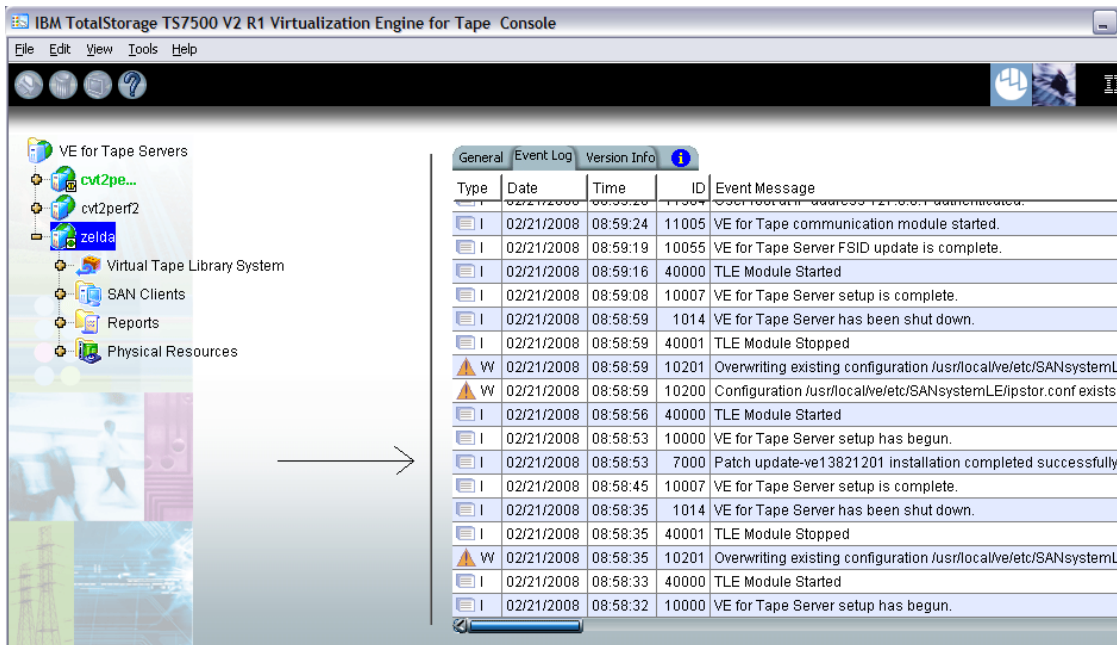

Figure-13
10. Check the TS7520 Event Log of each server, using the **VE for Tape Console** application *Event Log* tab, to confirm the successful installation of the patch (refer to Figure-13). There should be an Event Log entry stating the “Patch update-ve13821201 installation completed successfully”.